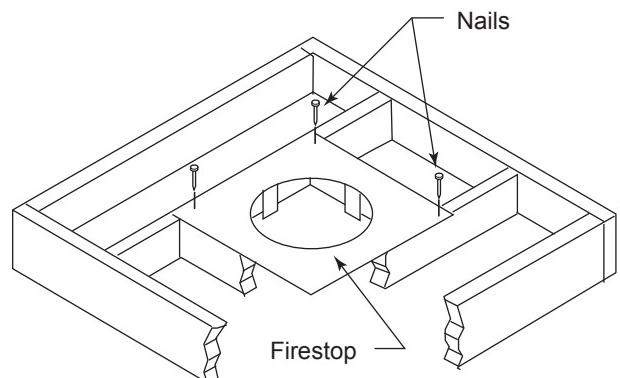
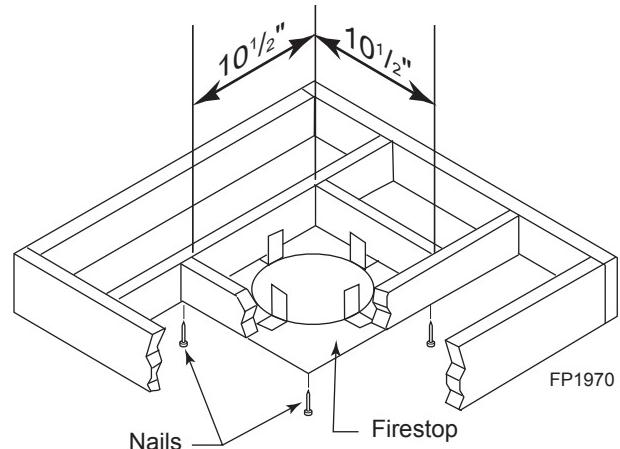

Figure 21 - If Area Above is a Room, Install Firestop above Framed Hole as Shown
Figure 22 - If Area Above is Not a Room, Install Firestop above Framed Hole as Shown
- Cut a $10\frac{1}{2}$ " (241 mm) square hole in the ceiling using the locating hole as a center point. The opening should be framed to $10\frac{1}{2}" \times 10\frac{1}{2}"$ (241 x 241 mm) inside dimensions as shown in Figure 22 using framing lumber the same size as the ceiling joist. If the area above the ceiling is an insulated ceiling or a room, nail firestop from the top side. This prevents loose insulation from falling into the required clearance space. Figure 21. Otherwise, install firestop below the framed hole. Figure 22